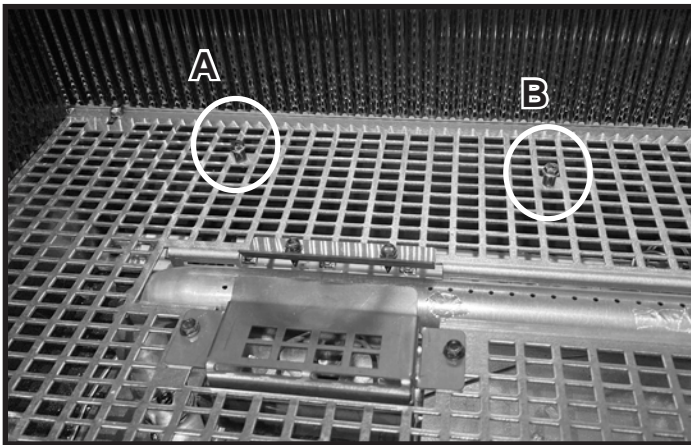
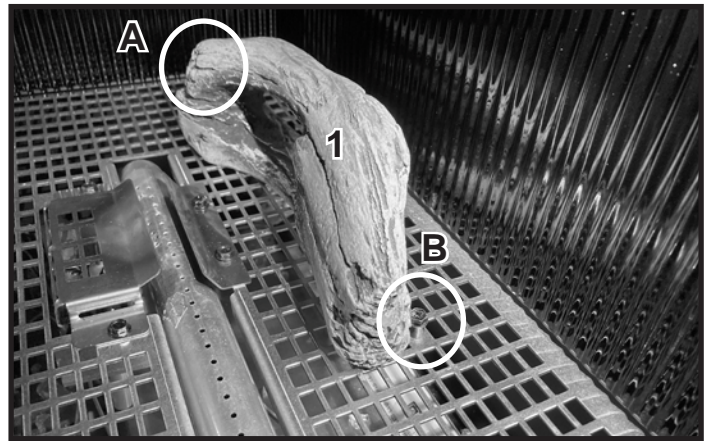

Figure 1 Log Pins for Log #1
Figure 2 Install Log #1
**Log #1:** Center the log left to right between the log pins noted in Figure 1. Slide Log #1 back until it contacts both log pins. See Figure 2.